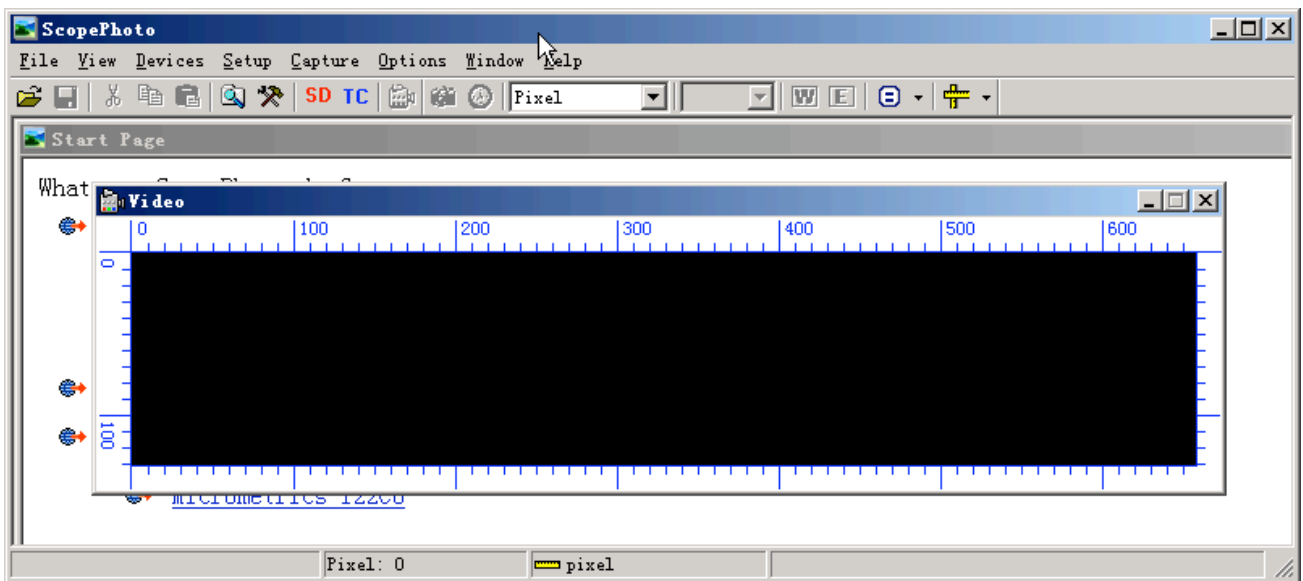

Fig 3.1 Video window with black background
c) Click  button on         toolbar, a video window with black background will be shown as in Fig 3.1
Select **Setup->Stop** submenu will stop the video preview operation and the video window will switch to Fig 3.1